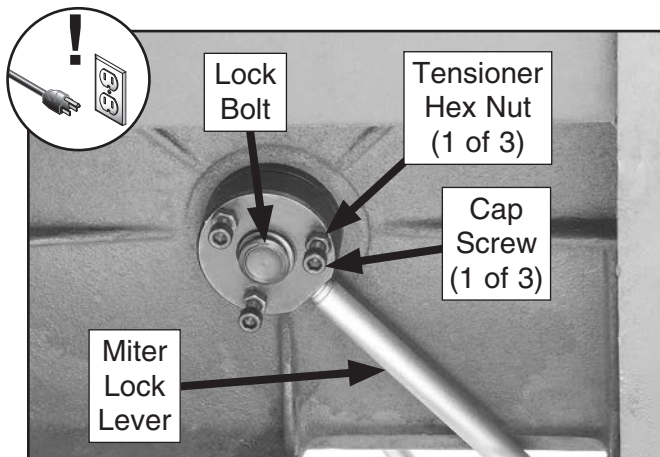

Figure 50. Miter lock lever adjustment components.
2. Loosen cap screws securing miter lock lever to lock bolt shown in **Figure 50**.